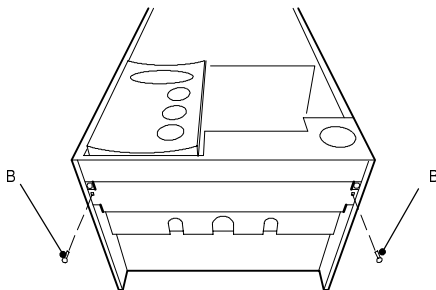

fig. 6.2
- 2 Loose the two screws "B" (fig. 6.2). Bring the base of the panels far from the boiler and lift them freeing from the side hooks.
- 3 Completely unscrew the screws "B" (fig. 6.2) and remove the lower protection plate.